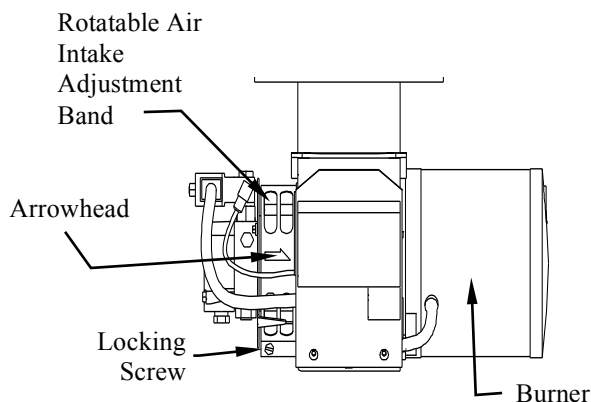

Figure 24
4. Locate air intake adjustment band as shown in Figure 24 below. Clear if necessary to see numbers. Observe position of arrow on air band relative to calibration numbers directly to the right. (Factory calibration starts out at close to "1.")